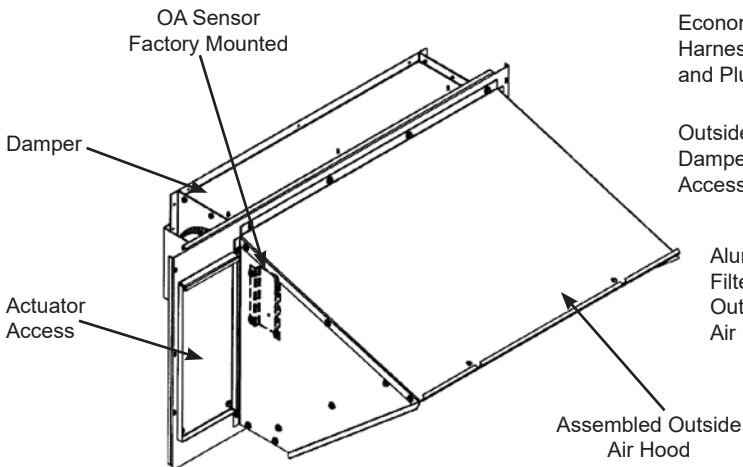
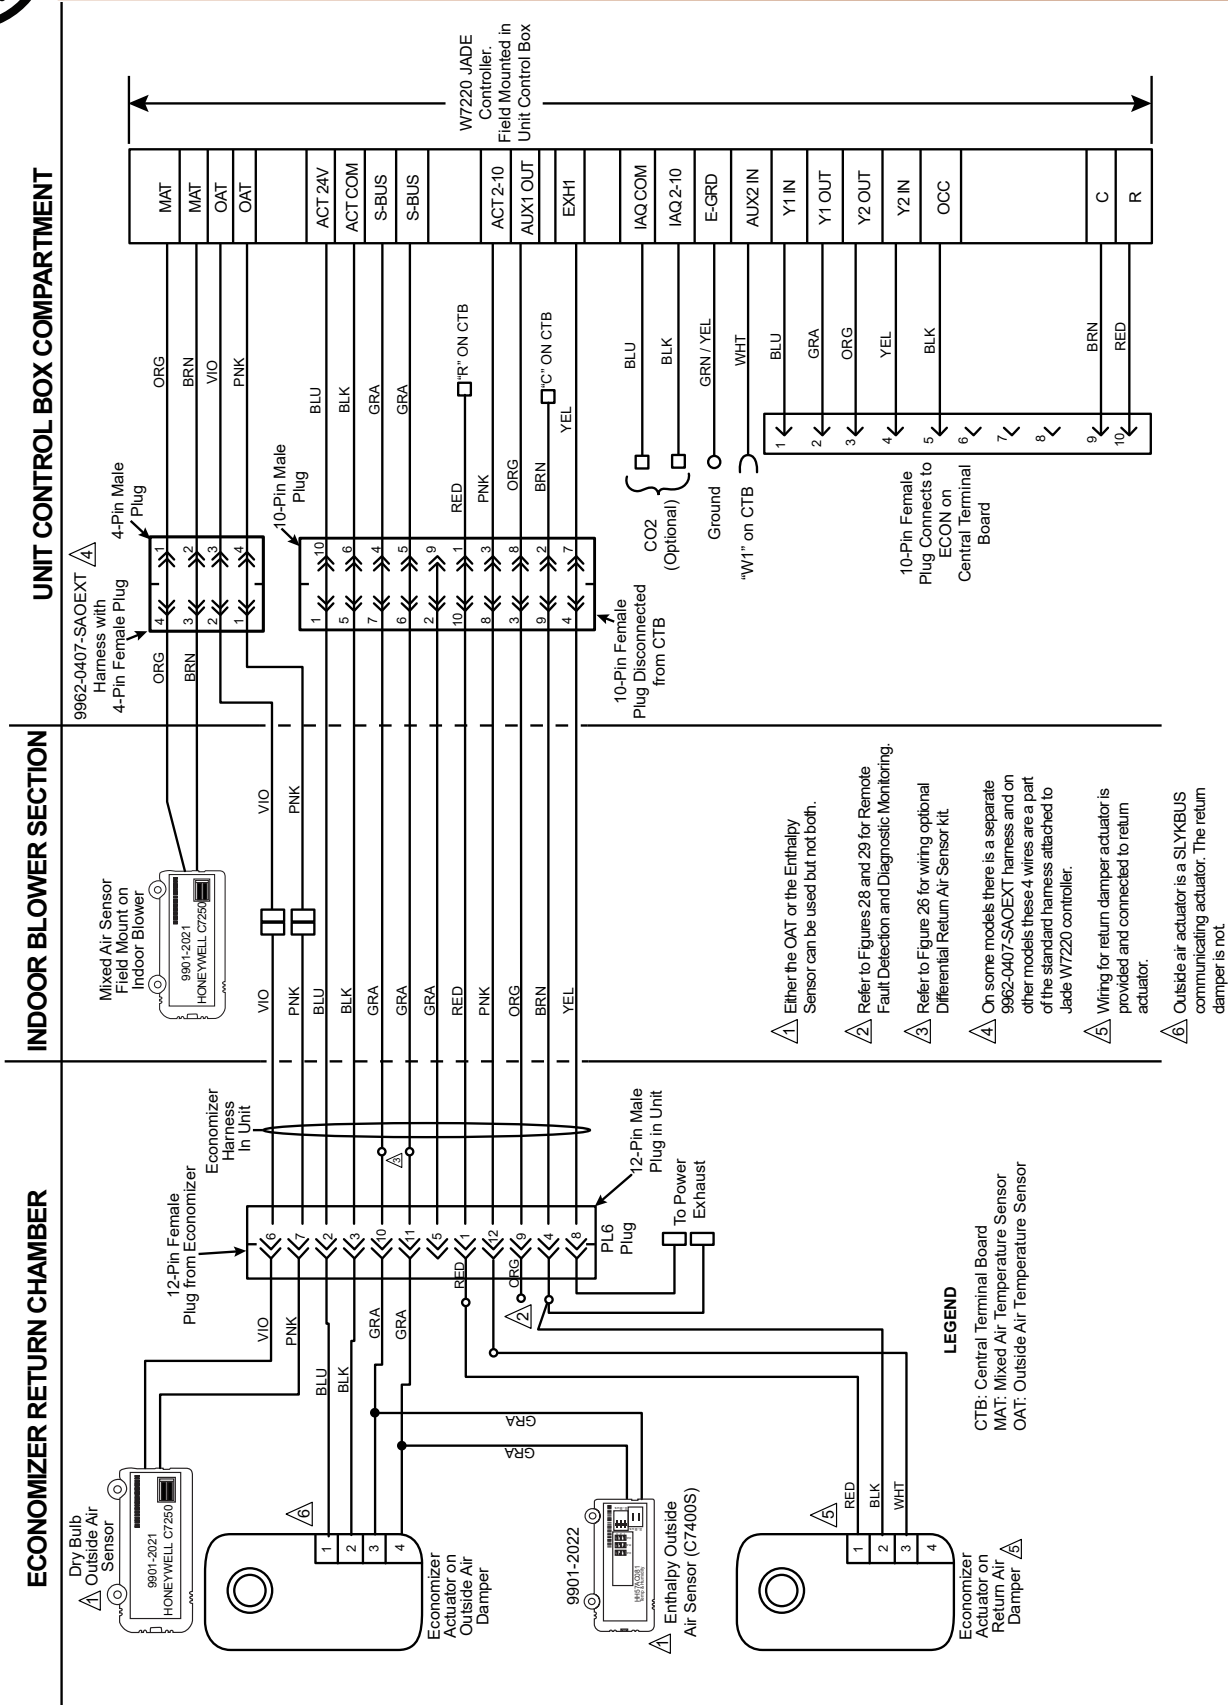

Fig. 1 - Outside Air Damper Assembly
Figure 18 – Typical Economizer Wiring Diagram for 1 or 2 Speed Units
Step 7: If an economizer with a dry bulb sensor will be operating with an enthalpy outside air sensor, remove the factory installed 9901-2021 (C7250) dry bulb sensor from the outside air hood of the economizer (see Figure 1), and install the accessory enthalpy sensor 9901-2022 (C7400) in the same location as the dry bulb sensor. Connect the (2) wire gray harness with plug from the economizer to the enthalpy sensor. See wiring diagram Figures 18 and 23. Refer to "9901-2022 Outside Air Enthalpy Sensor" section for more details on enthalpy settings
Step 8A: Wire the return damper actuator per wiring diagrams in instructions. Wire harness is provided and is attached to return actuator. See Figure 18.
The (2) gray wires with a plug from the economizer harness in the return chamber plug directly into the 9901-2022 enthalpy sensor. See Figures 18 and 23 for wiring.
Refer to economizer wiring diagram Figures 18 and 23 and DCV instructions if demand control ventilation (CO2 sensor) is used. CO2 sensor will wire into the blue and black connections at the Jade controller as shown in Figures 18, 23 and 27. If a field installed CO2 sensor is connected to the economizer controller, a demand controlled ventilation strategy will operate automatically. As the CO2 level in the space increases above the setpoint (on the economizer controller), the minimum position of the dampers will be increased proportionally, until the Maximum Ventilation setting is reached. As the space CO2 level decreases because of the increase in fresh air, the outdoor damper will follow the higher demand condition from the DCV mode or from the free cooling mode.